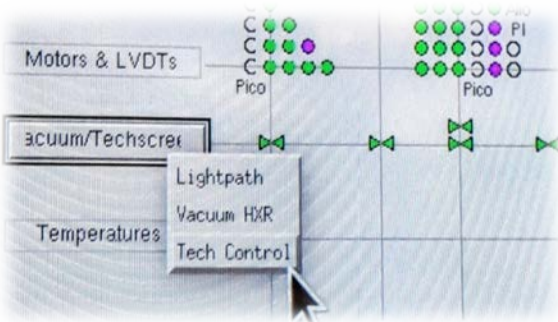
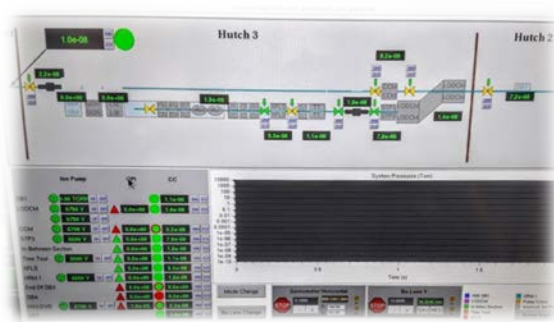

Fig 1
Fig 2
STEP 04: Click the "XPP Home" icon (or type XPPHOME in any terminal window) on the hutch Linux computer to launch the main control panel. Click on the Vacuum/Techscreen button, then select Tech Control (Fig 1) to open the vacuum system control panel (Fig 2).